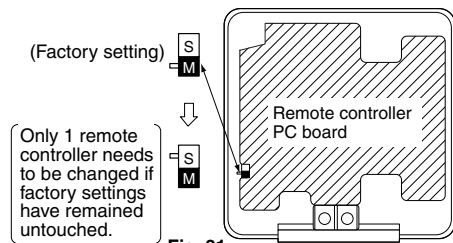

Fig. 31
- (2) Turn the MAIN/SUB changeover switch on one of the 2 remote controllers PC boards to "S". (Leave the switch of the other remote controllers set to "M".) (Refer to Fig. 31)